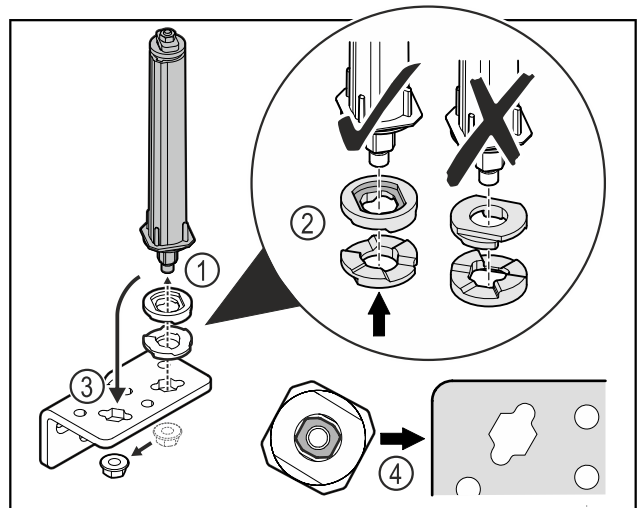

Fig. 35
- Loosen the nut and remove the door closing system Fig. 35 (1).
- Observe the correct alignment of the height adjustment washers Fig. 35 (2).
- Put the door closing system in the hinge and fix in place with the nut Fig. 35 (3).
- Observe the correct alignment of the door closing system when doing so Fig. 35 (4).